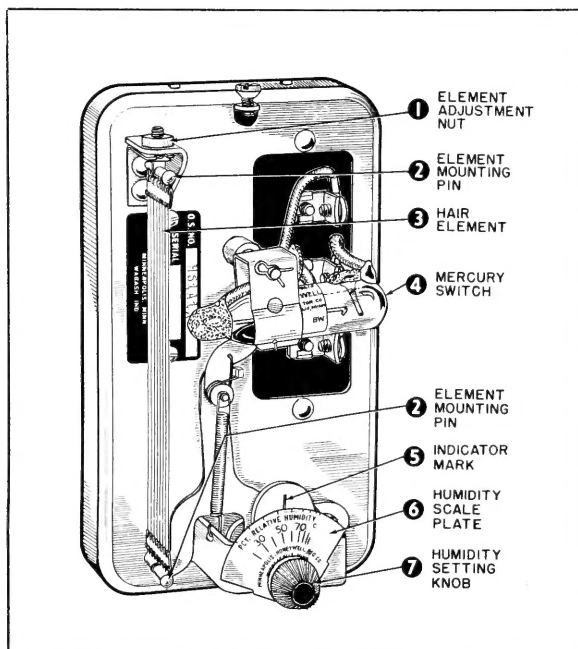

Fig. 3—Type H61 Controller. Type H41A & B are similar except that they have a two-wire mercury switch.
SETTING—To set the Humidity Controller it is only necessary to turn the knurled knob (7-Fig.3) until the indicator mark (5) is opposite the desired percent of relative humidity on the scale (6).